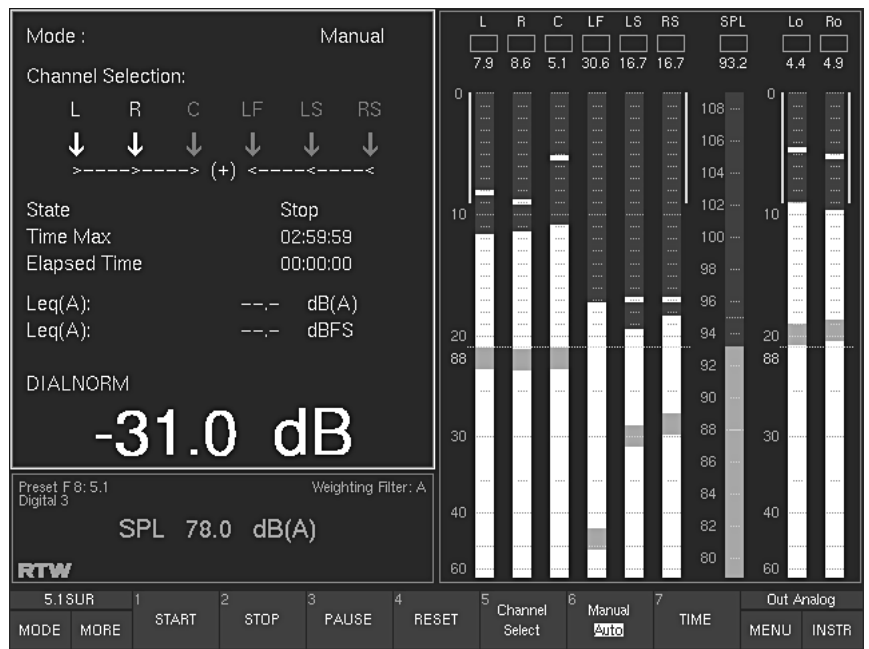

Fig. 5-57: The functions of the DIALNORM instrument displayed in the Toolbar
(Button/key 1, see Fig. 5-57)
(Button/key 2, see Fig. 5-57)
(Button/key 3, see Fig. 5-57)
(Button/key 4, see Fig. 5-57)
(Button/key 5, see Fig. 5-57)
- L + R: L and R channel pair together (Button/key 1)
- C: Centre channel (Button/key 2)
- LF: LF channel (Button/key 3)
- LS + RS: LS and RS channel pair together (Button/key 4)
- Close: Terminates the selection and returns you to the previous layer (Button/key 7)
(Button/key 6, see Fig. 5-57)
(Button/key 7, see Fig. 5-57)